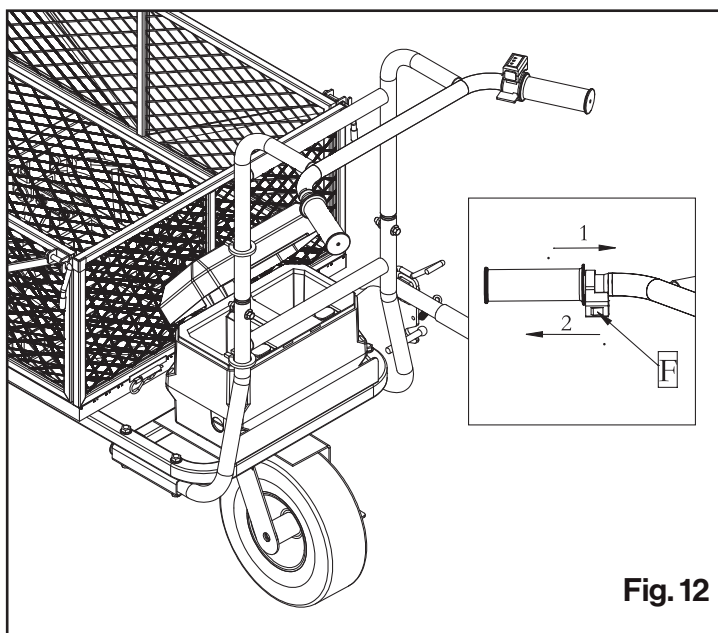

Fig. 12
3. Use the direction button (F) on the left handle for forward and reverse. (See Fig. 12)